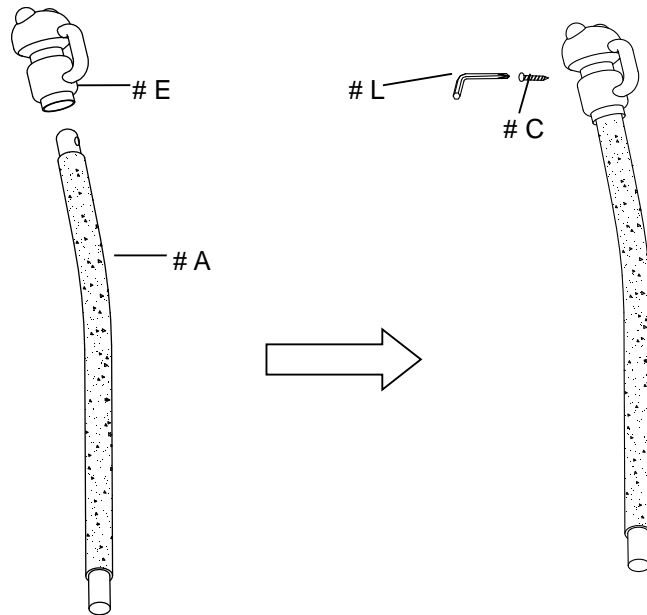

FIGURE 18
- B. Attach TUBE CAP (# E) to UPPER FRAME TUBE WITH FOAM (# A) and secure TUBE CAP (# E) and UPPER FRAME TUBE WITH FOAM (# A) by using SELF-LOCKING SCREW (# C) and ALLEN WRENCH (# L) as shown in FIGURE 18.